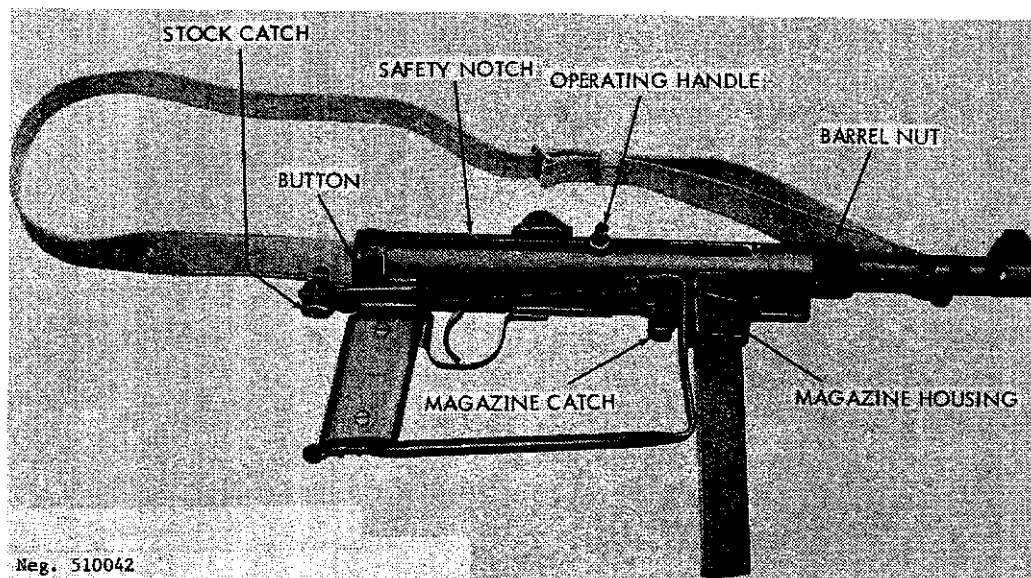

Figure 43. Egyptian Port Said submachinegun.
b. In addition to its use by the Swedish Army, the M45 is sold commercially as the "Carl Gustaf" or "Swedish K" submachinegun. Copies are manufactured in Egypt as the "Port Said" submachinegun (fig 43).
d. Pull the operating handle (fig 43) outward (if necessary); pull it to the rear, and then ease it forward until the bolt is caught by the sear. CAUTION: The gun is now ready to fire. Using a normal sight picture, aim and press the trigger. The gun will fire until the trigger is released or the magazine is empty. The bolt will remain forward after the last round has fired.
f. Fold the stock by pressing the stock catch (fig 43) to the left and then forcibly press the stock to the right until it swings forward.
b. Press in the button in the middle of the receiver cap (fig 43) and while holding the button inward, rotate the cap counterclockwise until it releases; ease the cap rearward and remove. Pull the driving spring out of the receiver.